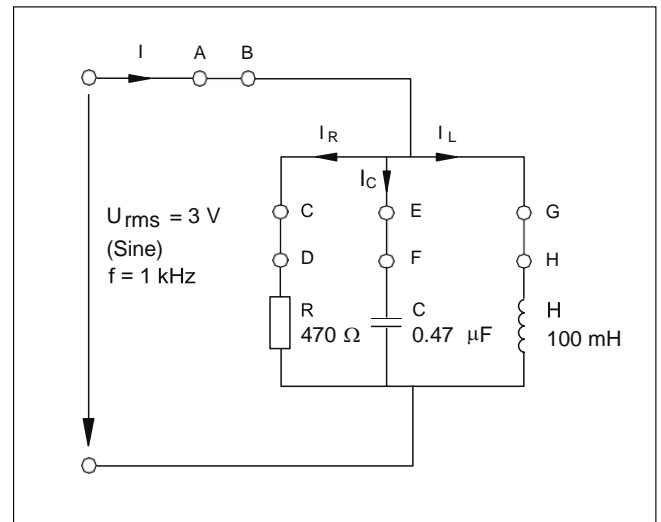

Fig. 12.3.1.1
- Set up the experiment according to the circuit (Fig 12.3.1.1), connect the function generator and set the following voltage: